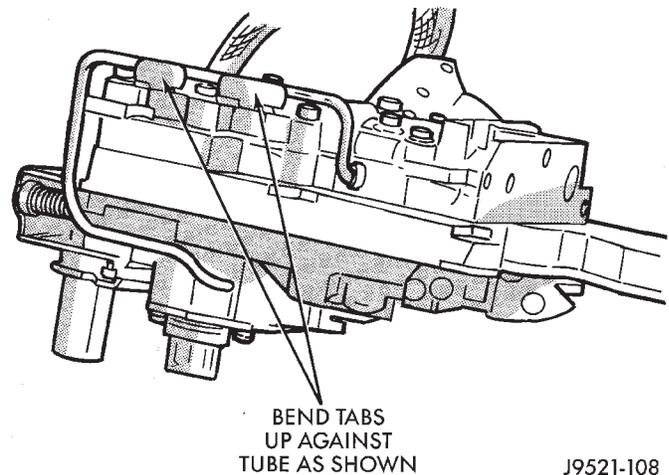

Fig. 107 Securing Boost Valve Tube With Brace Tabs
- (7) Bend tube brace tabs up and against tube to hold it in position (Fig. 107).
- (8) Tighten all valve body housing screws to 4 N·m (35 in. lbs.) torque after tube and brace are installed. Tighten screws in diagonal pattern starting at center and working outward.